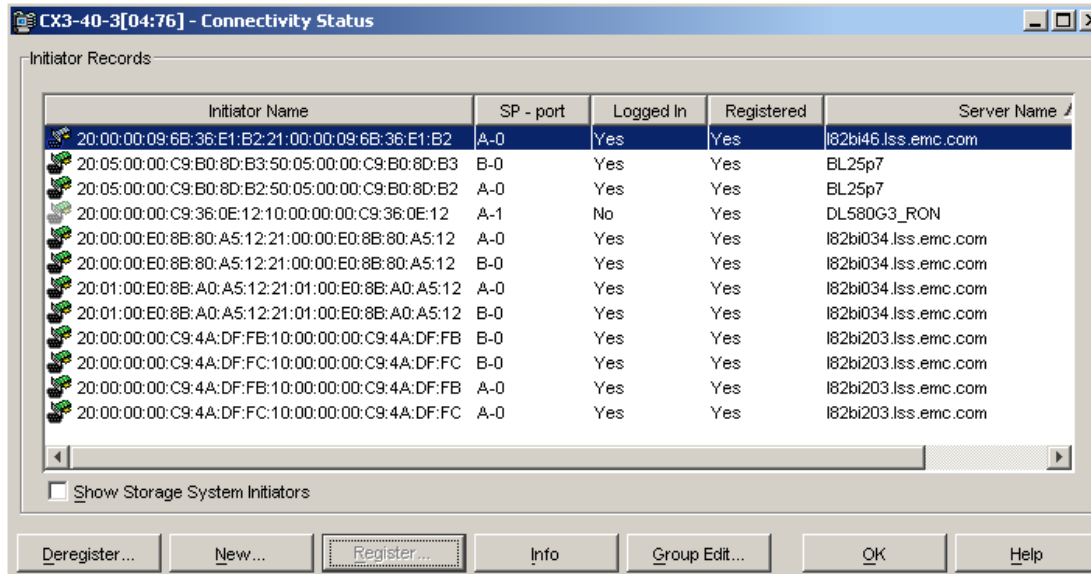

Figure 8-43 Connectivity Status window
15. Click **Yes** to continue with registration. You will see a window similar to Figure 8-43.